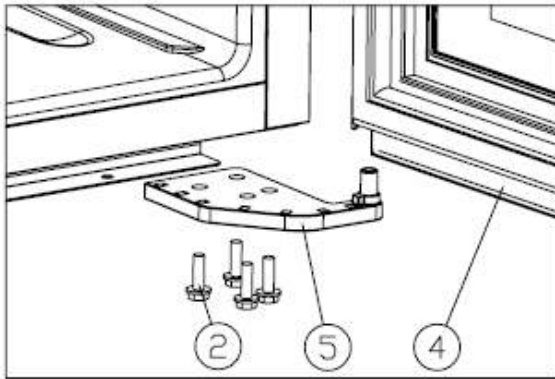

Figure 2
- ✧ Unscrew the M5*16screws②,dismantle the right lower hinge⑤.[Figure 2]